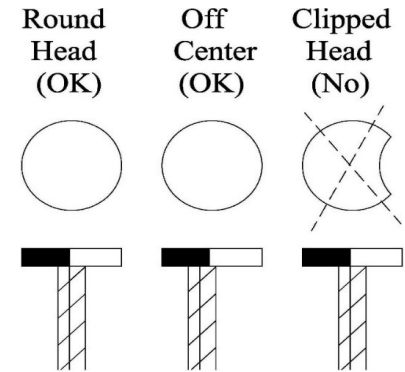

FIGURE 1.
4. Full round head Ø; No clipped-head nails, common nails or staples shall be allowed. Refer to Figure 1.